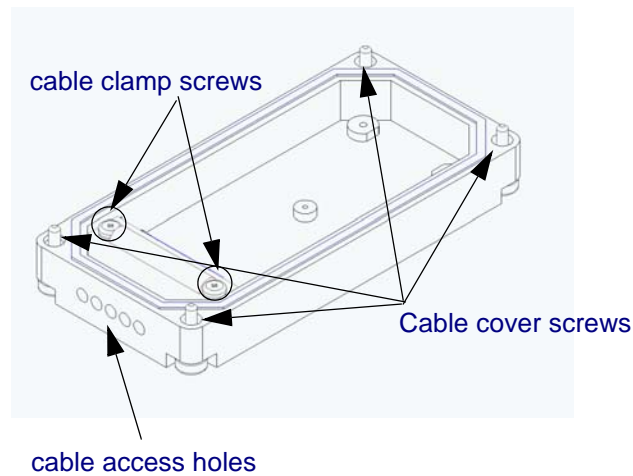

Fig 3-1 : Cable Cover
- 2) Loosen the cable clamp screws on the cover (see Figure 3-1) and feed the output wires through the access holes in the cable clamp and the foam seal block.